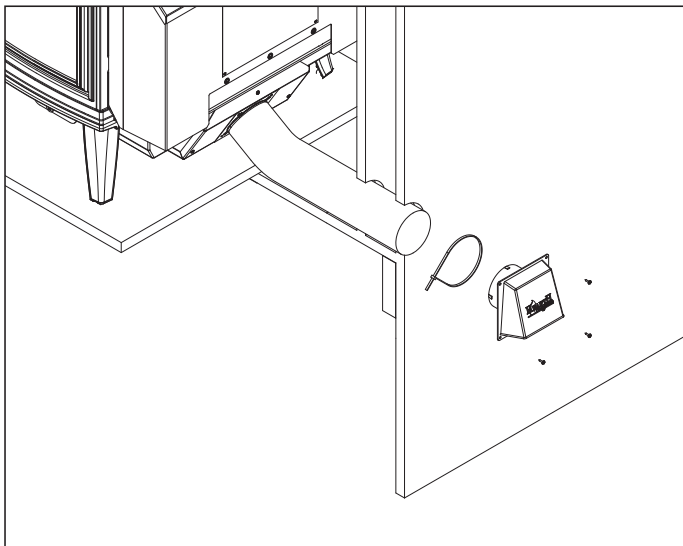

Figure 15.1 - Rear Installation
2. Using a #2 Phillips screw driver attach the flex adapter to the appliance using 4 screws. **Figure 15.1 & 15.2**